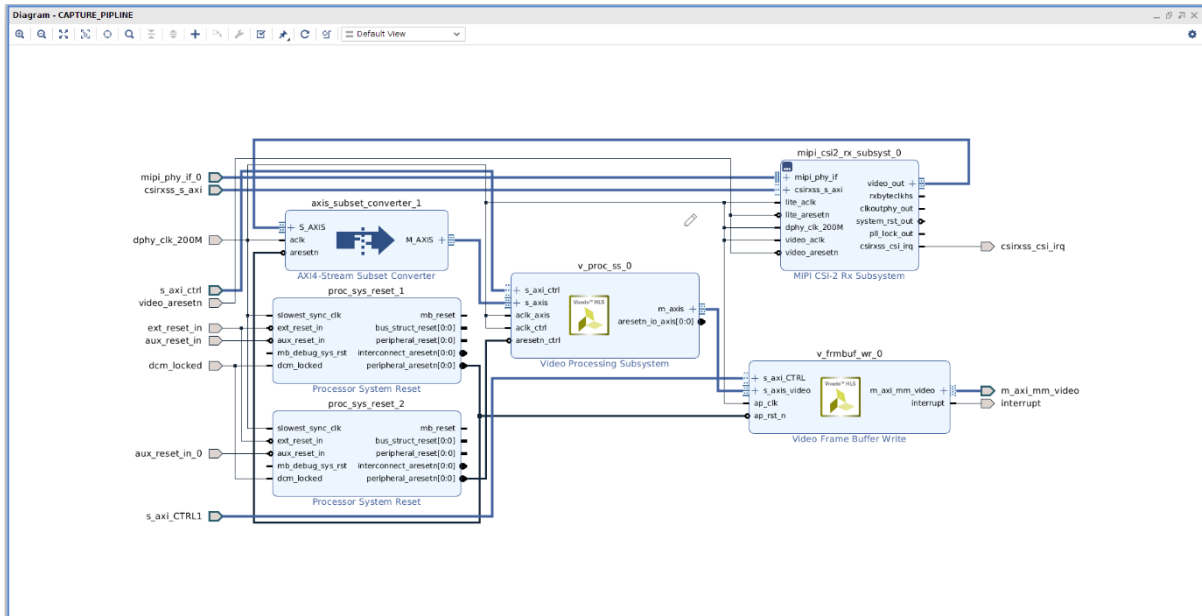

Figure 18. Capture pipeline
- Double click on the capture pipeline (see Figure 18). This block contains the MIPI input IP, the video processing subsystem and the frame write buffer. This enables the image frames to be stored and accessed by the Zynq PS DDR.